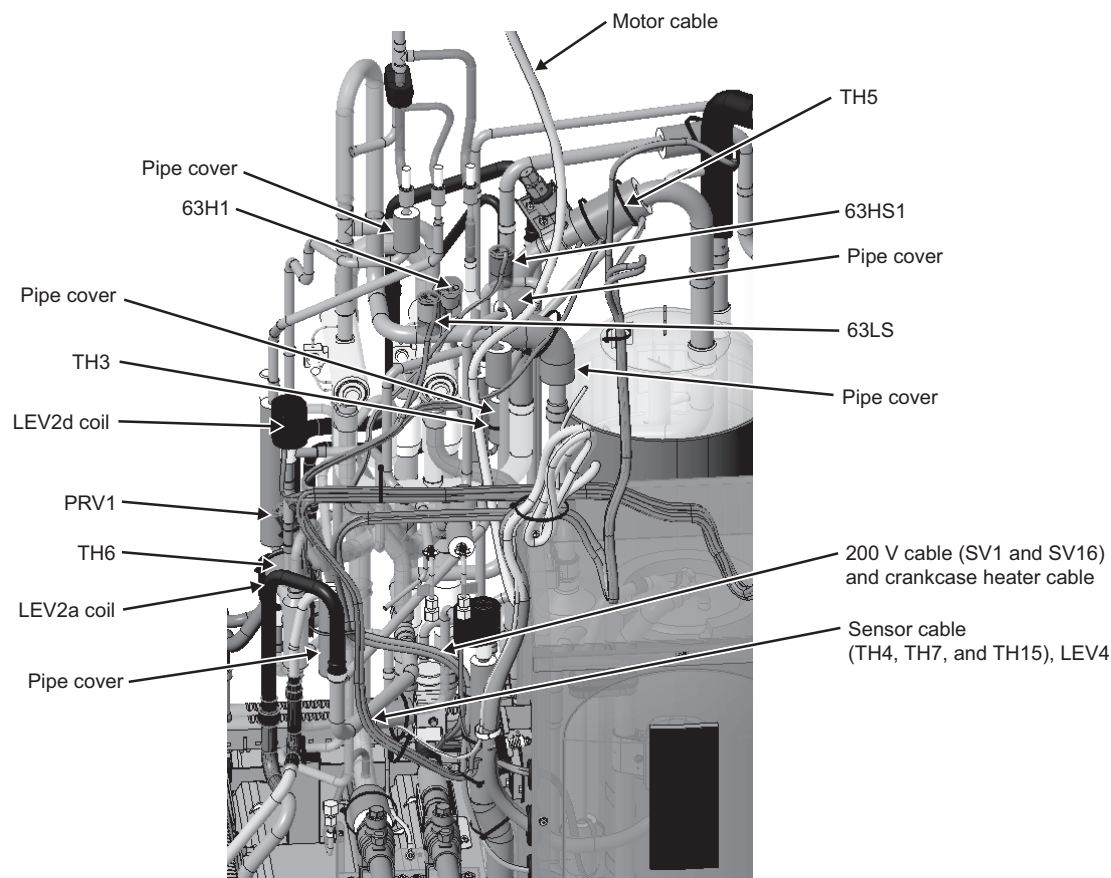

Fig. 2
(2) When brazing the four-way valves or removing the brazing, protect the surrounding pipe covers and cables. (Fig. 2)